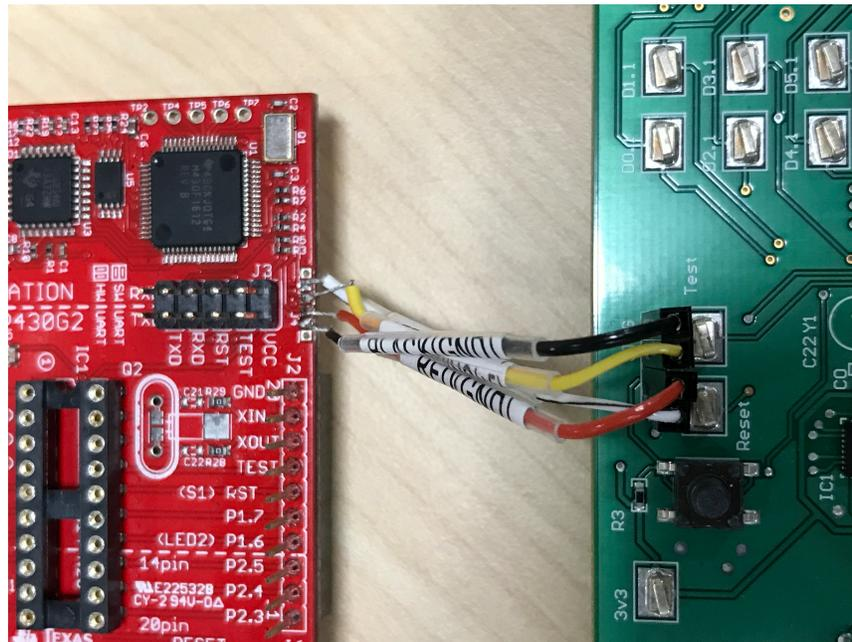

Figure 62. LaunchPad™ Connected to TIDA-01373
- Connect the TIDA-01373 to the MSP430 LaunchPad with the short wires. Both boards should be orientated with the silkscreen up. Note that the two outside wires (GND and 3v3) are opposite on the TIDA-01373 Programming Board than on the MSP430 Launchpad (shown in Figure 62).